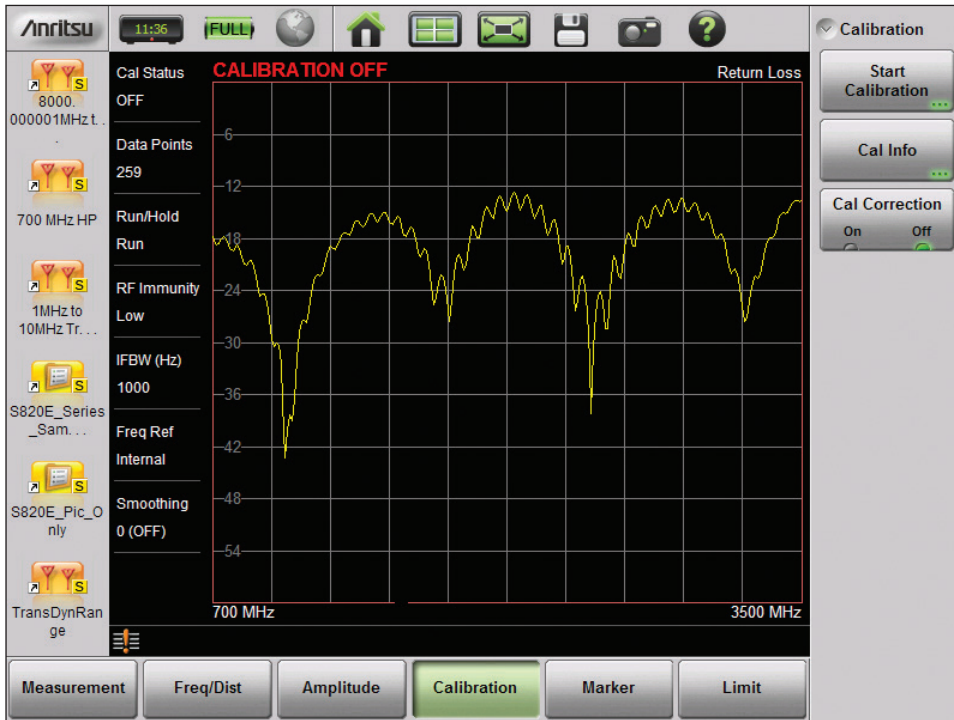

Figure 3. Calibration sub menu
4. Press “Calibration”  main menu key to open Calibration sub menu. See **Figure 3**.